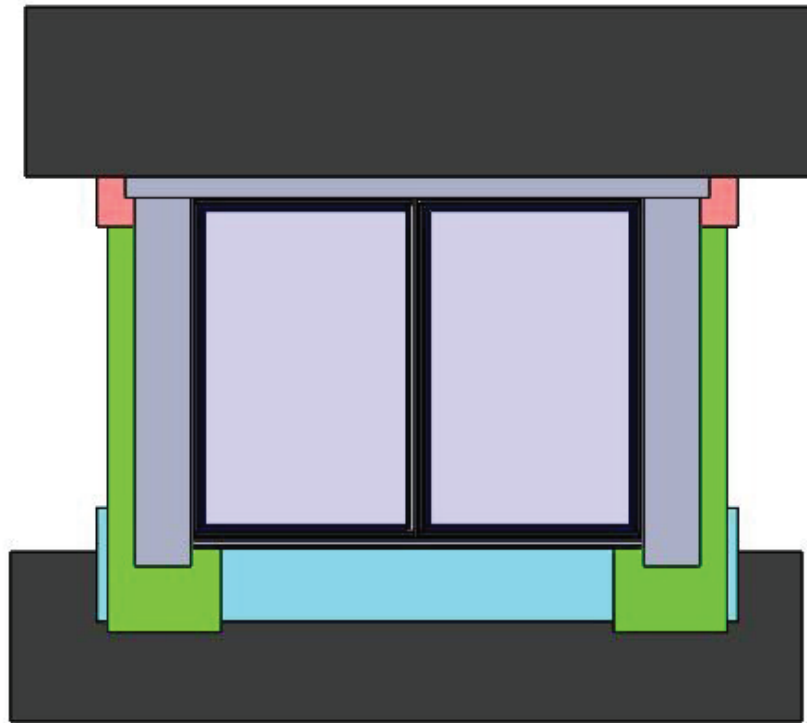

FIGURE 8
10. Install 6" SASM on jambs and then on head, 3" beyond nail fin. SASM should NOT be applied on sill nail fin to facilitate optimal weeping. Ensure that wall wrap is layered over head flashing and that jamb flashing is layered over wall wrap. See Figure 8 below.